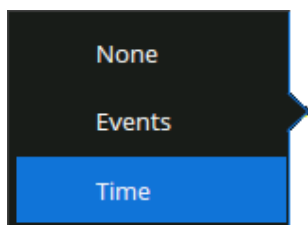

Figure 9.27 Trigger Holdoff
- The window shown in figure 9.27 will appear.